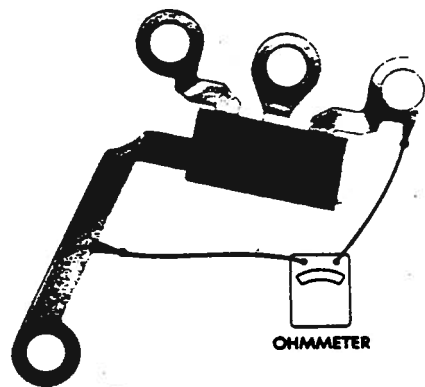

Figure 7-2. Diode Trio Test
- g. Check diode trio (7) as follows:
1. Connect ohmmeter (having a 1-1/2 volt cell) to single side connector and one of three connectors (figure 7-2).
2. Observe and record reading on lowest range scale and reverse leads to same two connectors (figure 7-2).